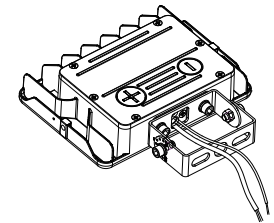

figure 2.3
- Step 4: Tighten the outer bracket with screws (Figure 2.3)